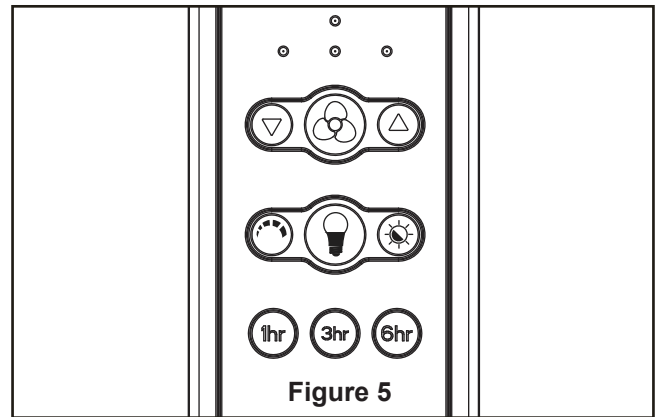

Figure 5
NOTE: Supply wires and fan wires omitted for clarity **Figure 5**
5. Remove the three screws in the light kit and retain the screws for later. (Figure 5)
5. Remote functions: (Figure 5)